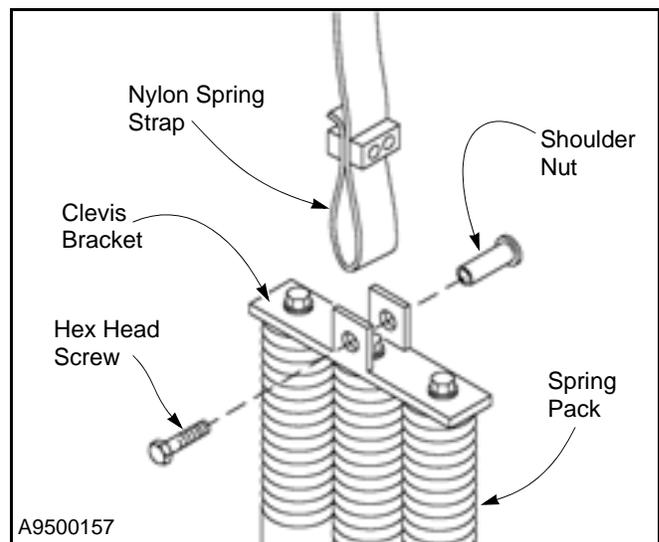

Figure 61
- Attach the loop end of the new spring strap to the spring pack using the saved hardware. Make sure the strap is not twisted. (See Figure 61.)